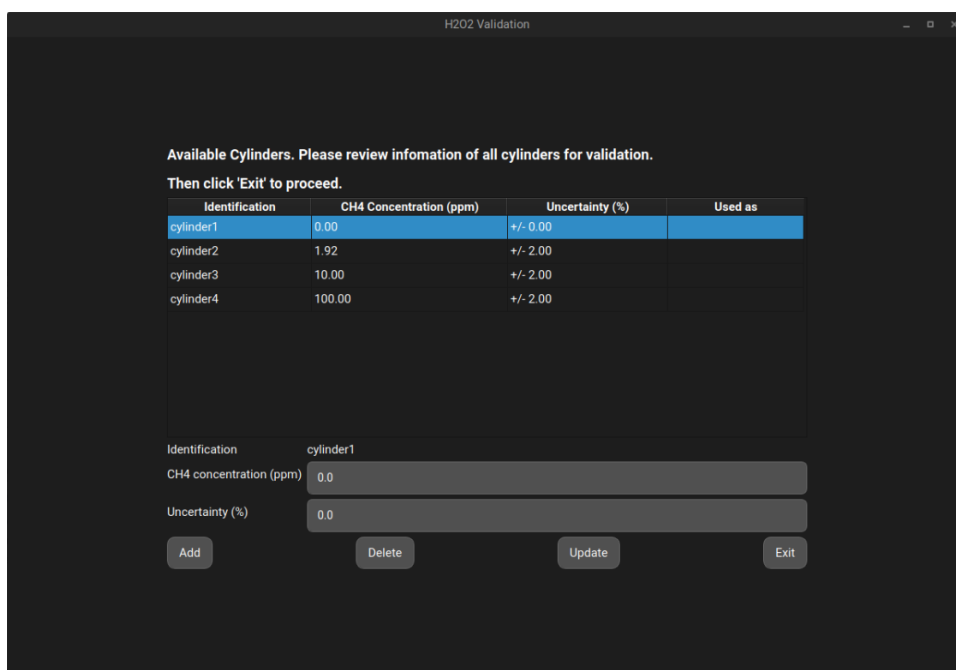

Figure 51 - Edit Cylinders
5. Click **Next**. The first-time validation is run, this will display the *Edit Cylinders* page (Figure 51 - Edit Cylinders). Use this page to specify the concentrations and uncertainties of the cylinders being used in this procedure. See Table 12 - Cylinder Button Functions for action definitions. On subsequent uses, the system will remember the saved values and skip directly to the Zero-Air Measurement step.